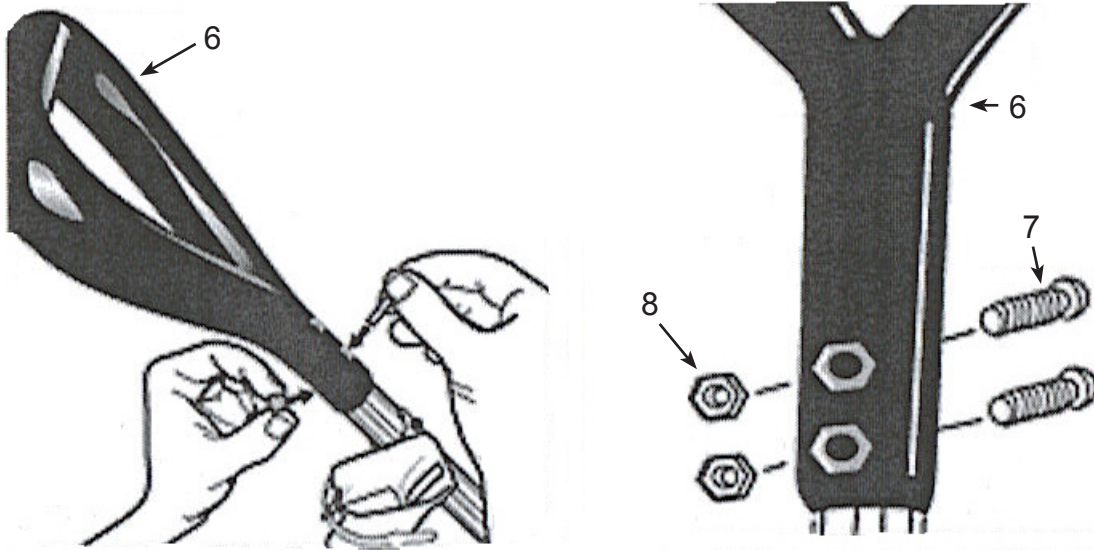

Figure 3
3. Slide the Black Handle (6) onto the Extension Handle (1) until the holes in the Black Handle (6) align with the holes in Extension Handle (1). Insert two Screws (7) in front holes and use the remaining two Hex-Nuts (8) to secure the Black Handle (6) to the Extension Handle (1). See **Figure 3**.
4. Insert four AA Batteries (included) into the Battery Compartment located in the base of the Power Sprayer Gun (12).
5. Snap the Wand Clip (9) onto the Extension Pole (1) above the Holster (5). Screw the Universal Cap (10) holding the Pickup Tube (11) onto the Tank (3).
6. The Motorized Power Sprayer may be used with either the Power Sprayer Gun by itself (12), or by attaching the Misting Tube (13) to the end of the Power Sprayer Gun (12) when only a light mist is needed.